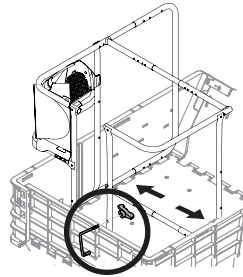

Figure 12
- Adjust frame as necessary to fit width of cart by depressing spring buttons on adjustor tubes to adjust the width and length of the frame, making sure the spring buttons snap into place. See Figure 12.
- Use hook assembly to secure frame to the cart by inserting the threaded arm of the hook assembly through the left front side of the frame, adjust the capped end of the hook assembly to rest against the outside wall of the cart and secure with one wing knob, as shown in Figure 12.